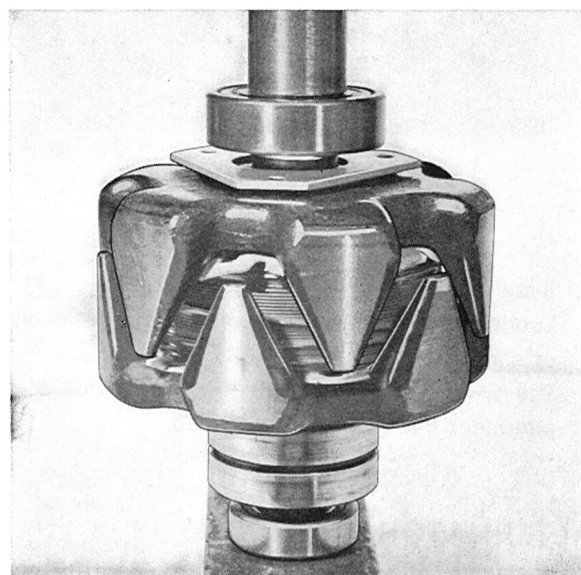

Fig. 3-41. Bearing installation
2. Press the bearing in with the help of a tubular sleeve which presses on the bearing inner ring, see Fig. 3-41.